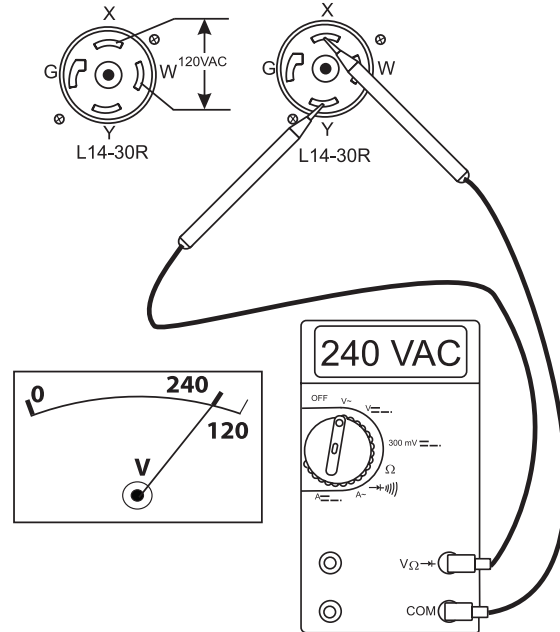

Figure 32. 120/240V L14-30R Receptacle
- The L14-30R receptacle is a dual voltage receptacle (120/240 volts). Using an external voltmeter as shown in Figure 32, verify that 120/240 VAC is present at the L14-30R twist-lock receptacle.